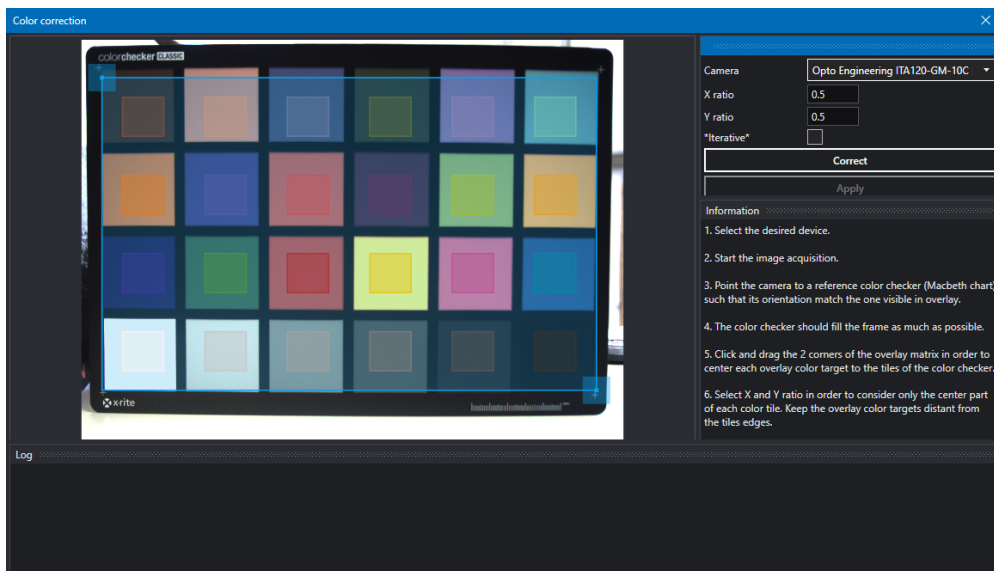

Figure 40: For optimal results, make sure to align the wizard color mask to the Macbeth color chart tiles.
5. The color checker should fill the frame as much as possible (Fig.40).